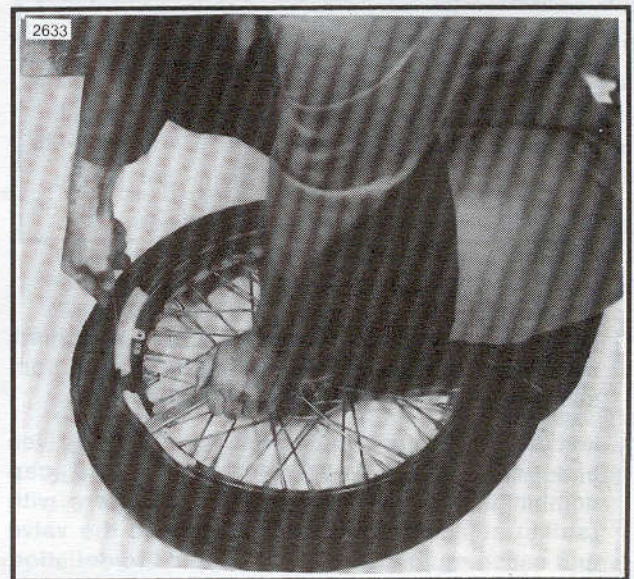

Figure 2-26. Starting Tire Off Rim
4. See Figure 2-26. Using tire tools (not sharp instruments), and RIM PROTECTORS, Part No. HD-01289, start upper bead over edge of rim at valve. Do not use excessive force when starting bead over rim. Bead wires may be damaged, ruining the tire. Repeat all around rim until first bead is over rim. Remove tube valve stem locknuts. Keep the tube in its original position while removing the tube. This will help to locate tire damage. Discard tube.